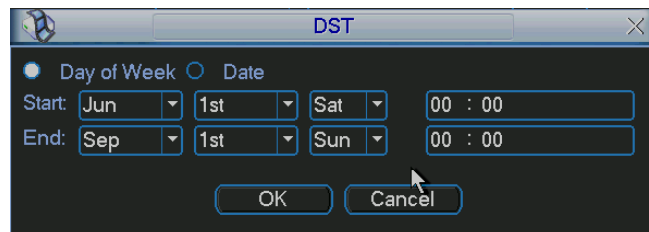
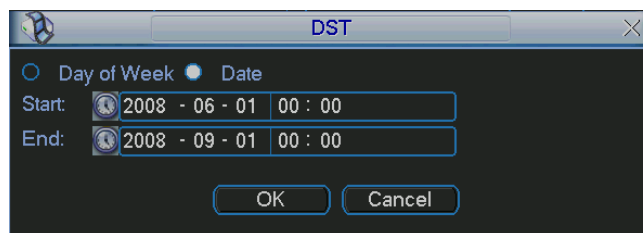

Figure 5-4
Figure 5-5
- DST: Here you can set DST time and date. Please enable DST function and then click set button. You can see an interface is shown as in Figure 5-4. Here you can set start time and end time by setting corresponding week setup. In _Figure 5-4, enable date button, you can see an interface is shown as in Figure 5-5. Here you can set start time and end time by setting corresponding date setup.